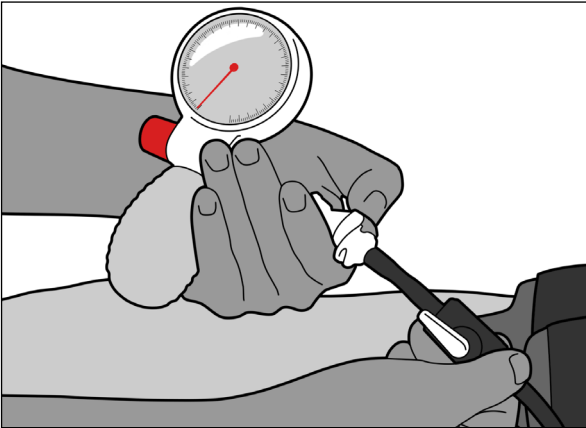

Fig. 16
1. Disconnect Quick Disconnect Fitting. Open shutoff valve and release the air from the bladder (Fig. 16 & 17).